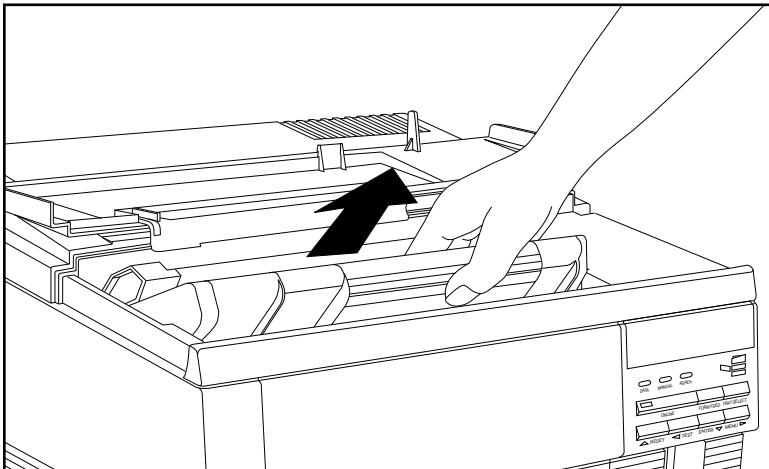

Fig. 6.7 Remove the Toner Cartridge
2. Grasp the toner cartridge by the grip area, raise that end slightly, and then pull the cartridge out of the printer (fig. 6.7).